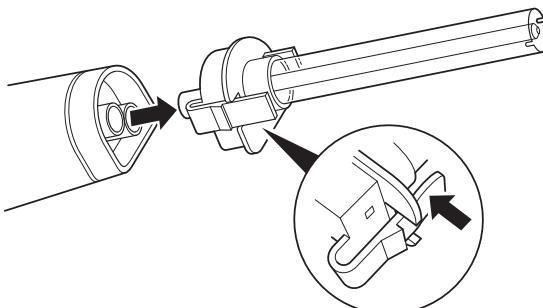

Figure 2 – To Remove the Tip Assembly
- Press the latch mechanism on the tip assembly and remove the tip assembly from the handpiece (figure 2).